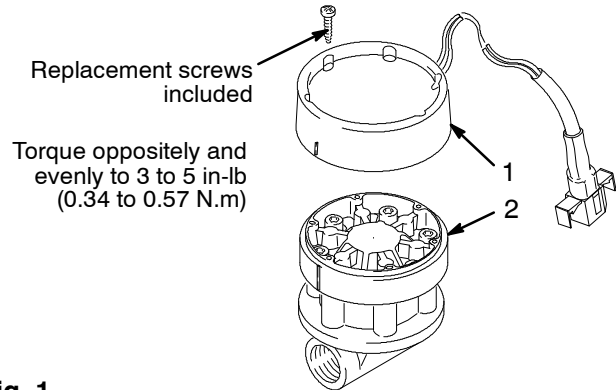

Fig. 1
7. Install a new pulse module (1). Align the notch on the side of the pulse module with the notch on the side of the metering unit. Use the new screws and torque them oppositely and evenly to 3 to 5 in-lb (0.34 to 0.57 N.m). See Fig. 1.